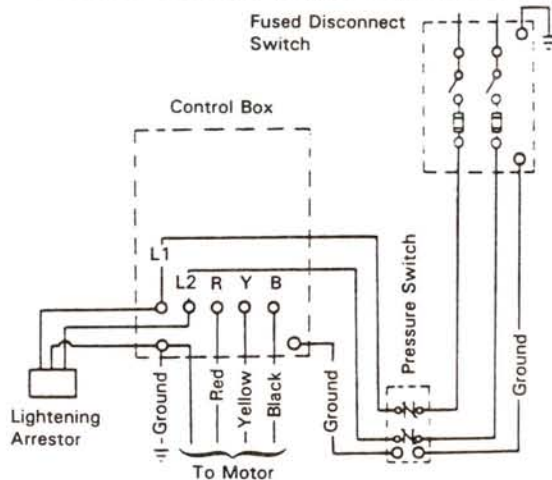

Figure 9 — Single Phase Control Box
1. Proceed with electrical hook-up matching cable colors and following the wiring diagrams (Figures 9, 10 & 11) or inside the lid of the control box.